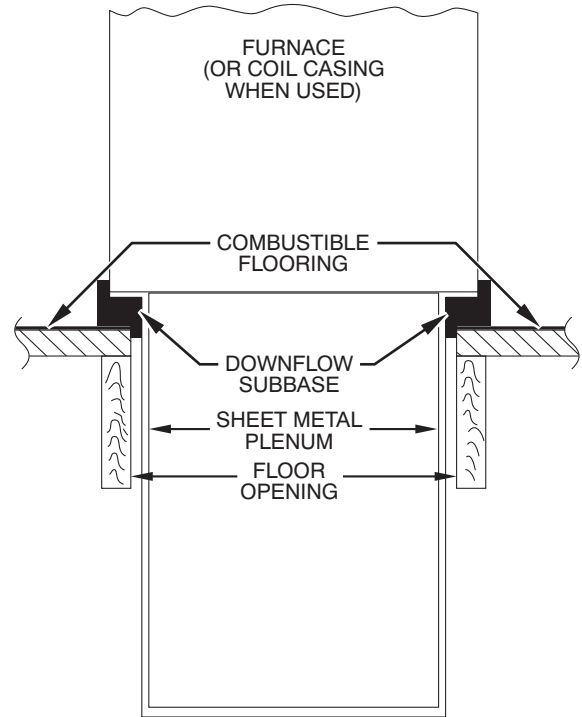
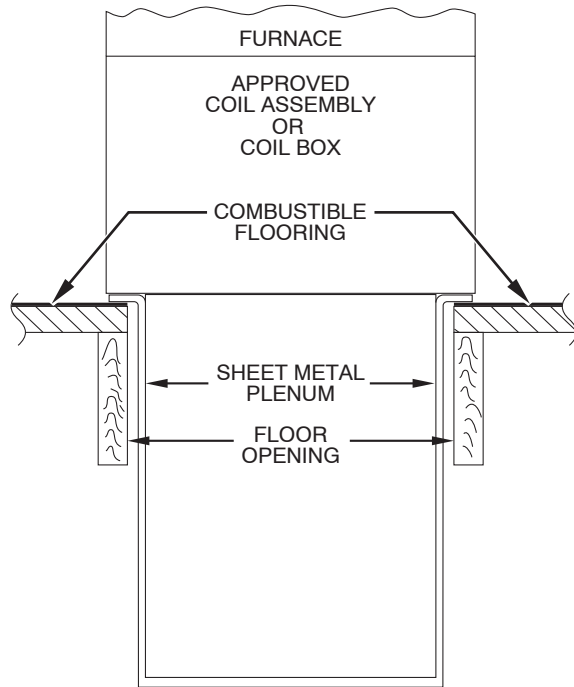

Fig. 12 - Furnace, Plenum, and Subbase Installed on a Combustible Floor
Fig. 13 - Furnace, Plenum, and Coil Assembly or Coil Box Installed on a Combustible Floor
4. If downflow subbase, KGASB is used, install as shown in Fig. 12. If Coil Assembly Part No. CNPV, CNRV, CAP and CNR or Coil Box PartNo. KCAKC is used, install as shown in Fig. 13.